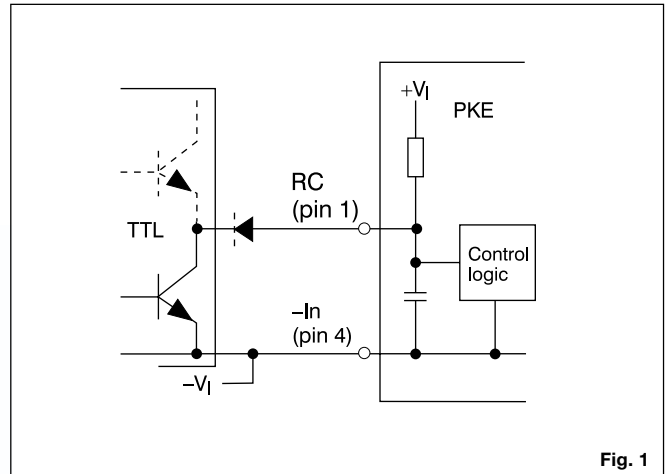

Fig. 1
Turn-on or turn-off can be realized by using the RC-pin. Normal operation is achieved if pin 1 is open (NC). If pin 1 is connected to pin 4 the PKE DC/DC power module turns off. To ensure safe turn-off the voltage difference between pin 1 and 4 shall be less than 1.8 V. RC is TTL open collector compatible (see fig. 1). Pin 1 is an output and no current should be driven into pin 1. Use a diode if necessary e.g. totem pole TTL logic. The internal pull-up resistance is 36 kΩ.